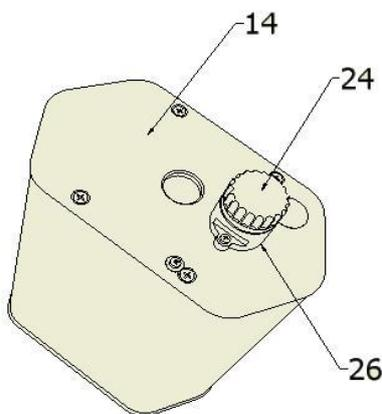

Figure 4
With the ADV in vertical position, repeat the battery extraction procedure in reverse order, being careful to insert the anti-rotation pin (16) in the battery hole. (see fig. 4)
Insert the ballast on the rod (13) also inserting the anti-rotation pin (16) (Fig. 4).